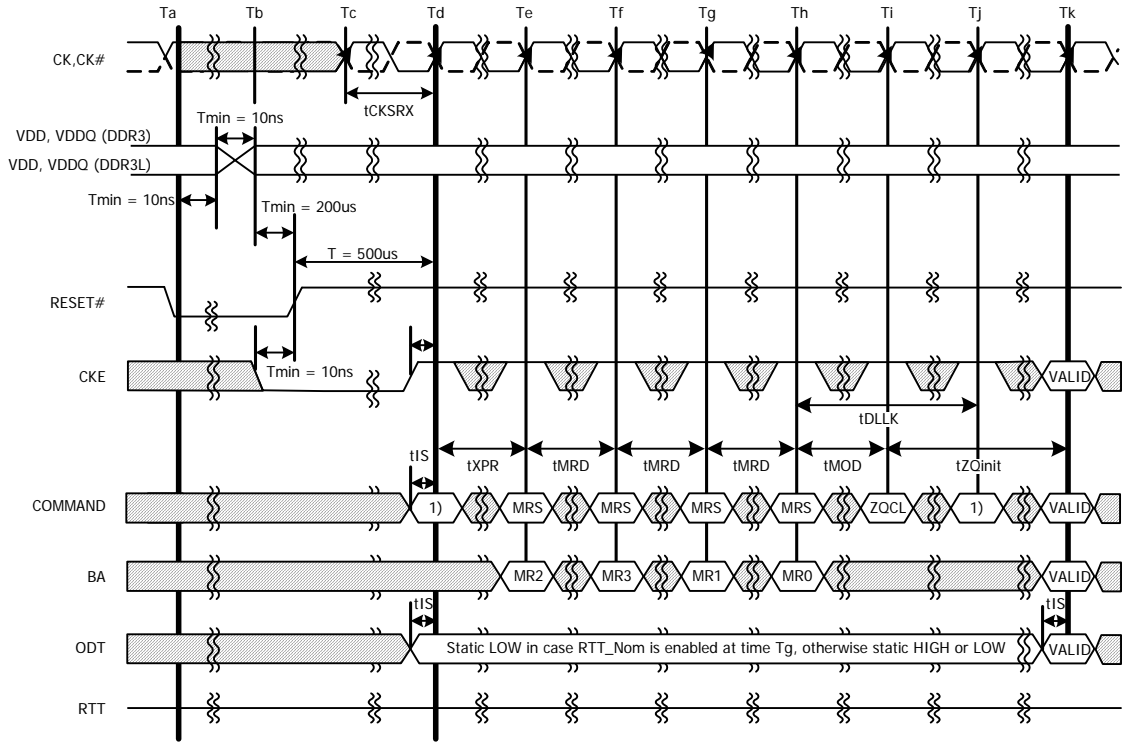

Figure 0 - VDD/VDDQ Voltage Switch Between DDR3L and DDR3
4. Once initialized for DDR3L operation, DDR3 operation may only be used if the device is in reset while VDD and VDDQ are changed for DDR3 operation (see Figure 0).
3. Once initialized for DDR3 operation, DDR3L operation may only be used if the device is in reset while VDD and VDDQ are changed for DDR3L operation (see Figure 0).